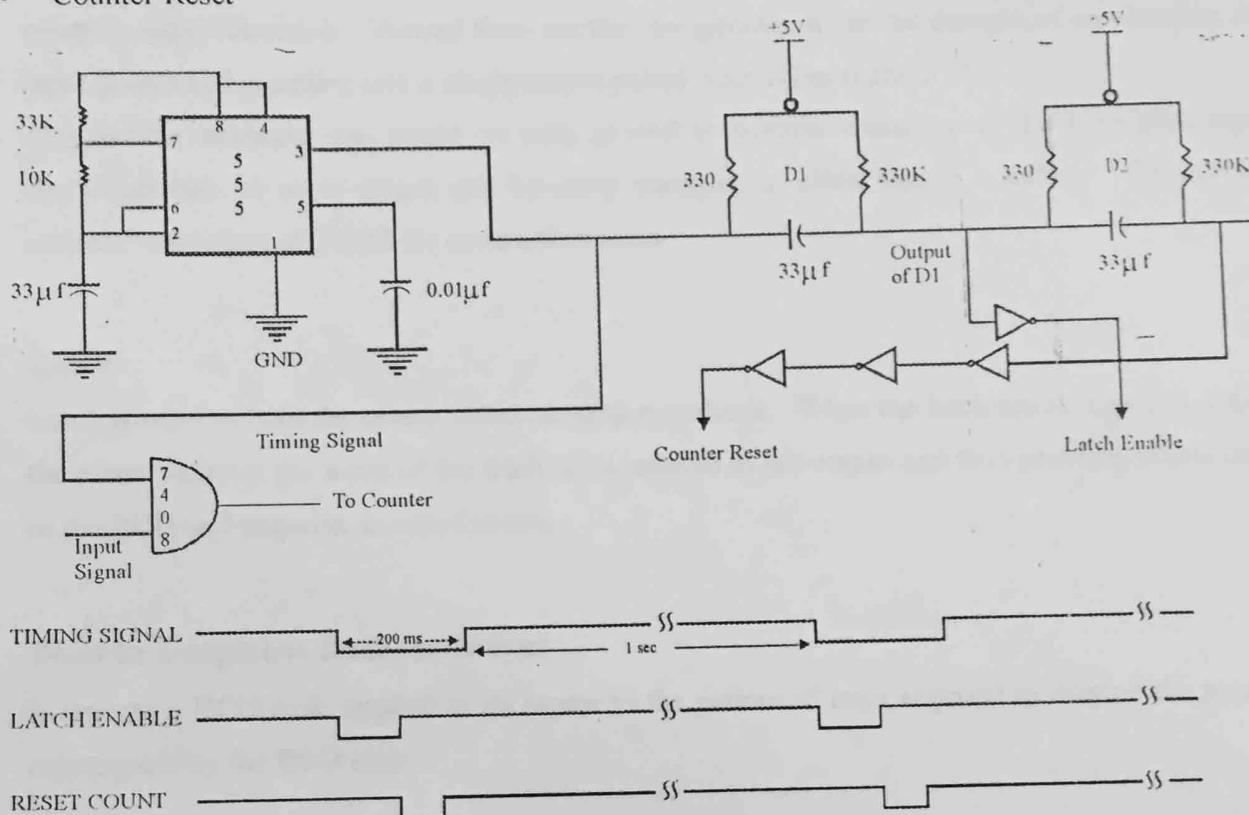

Figure 2
These signals are shown in the schematic diagram along with the timing diagram in fig 2. Timing pulse signal is generated by the 555 timer configured as an astable multivibrator that puts out a fixed time width pulse which is used to turn the gate ON for an accurate time period of 1 second and closes the gate for a time period of 0.2 second. During ON time, the input signal pulses clock the counter, which counts the incoming signal frequency. At the end of this (ON) period, the gate is closed and a short latch enable pulse is generated to transfer the count to a latch. Falling edge of the timing pulse is detected by the differentiator D1 and it produces a negative-going pulse of 2ms duration. This pulse is passed through an inverter to get a well-shaped pulse of 2ms duration to enable the latch. Another differentiator D2 is used to detect the falling edge of the signal at the